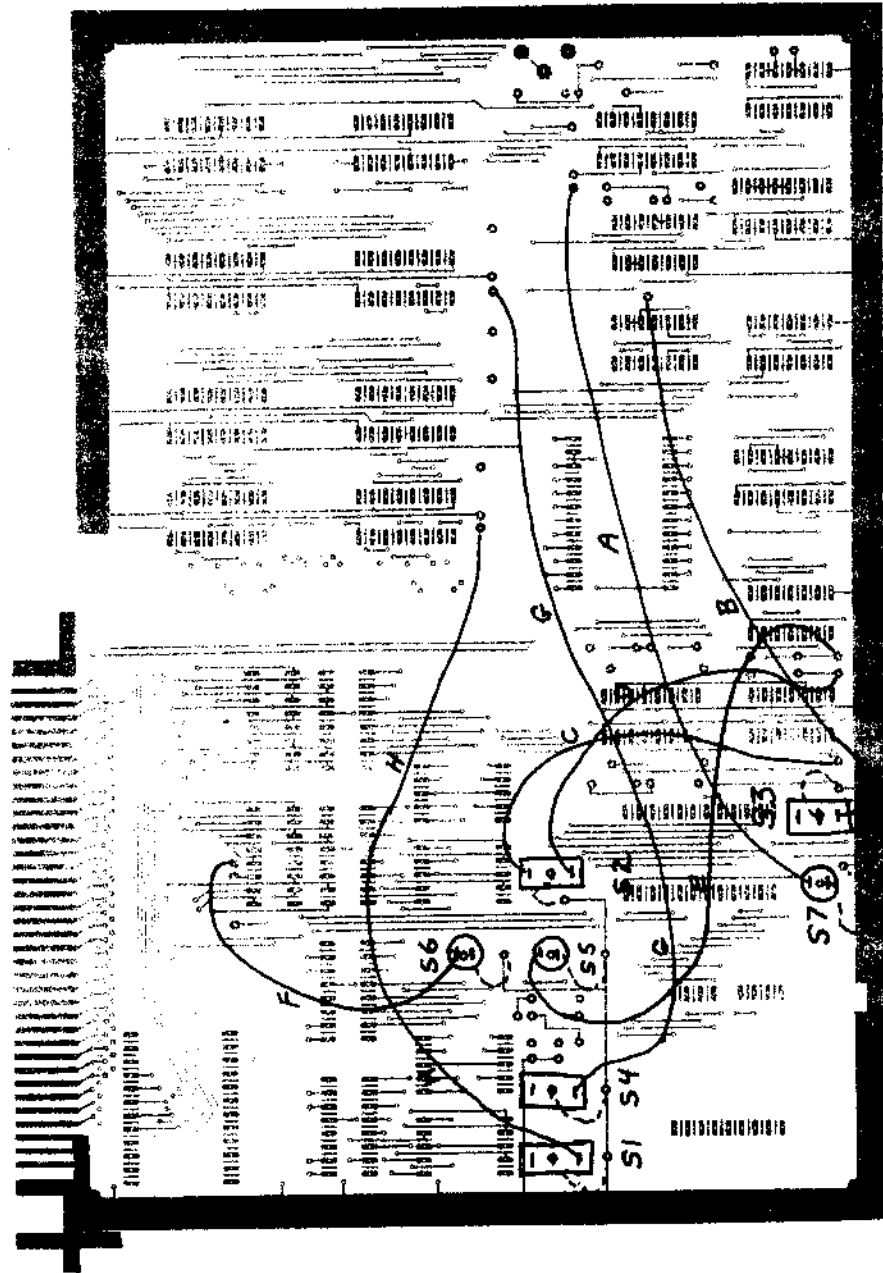

Figure 9. Switch Wiring
- (.) Cut a 7-1/2 inch length of wire. Strip 1/8th inch of insulation from each end. Connect one end to the contact indicated on switch S7. Connect the other end to the pad indicated. Refer to line A, Figure 9.
- (.) Cut a 6-1/2 inch length of wire. Strip 1/8th inch of insulation from each end. Connect the other end to the contact indicated on switch S3. Connect the other end to the pad indicated. Refer to line B, Figure 9.
- (.) Cut two 3-1/4 inch lengths of wire. Strip 1/8th inch of insulation from each end. Connect one end of each wire to the contacts indicated on switch S2. Connect the other ends to the pads indicated. Refer to lines C and D, Figure 9.
- (.) Cut a 3-3/4 inch length of wire. Strip 1/8th inch of insulation from each end. Connect one end to the contact indicated on switch S5. Connect the other end to the pad indicated. Refer to line E, Figure 9.
- (.) Cut a 2-1/2 inch length of wire. Strip 1/8th inch of insulation from each end. Connect one end to the contact indicated on switch S6. Connect the other end to the pad indicated. Refer to line F, Figure 9.
- (.) Cut a 7 inch length of wire. Strip 1/8th inch of insulation from each end. Connect one end to the contact indicated on switch S4. Connect the other end to the pad indicated. Refer to line G, Figure 9.
- (.) Cut a 6 inch length of wire. Strip 1/8th inch of insulation from each end. Connect one end to the contact indicated on switch S1. Connect the other end to the pad indicated. Refer to line H, Figure 9.